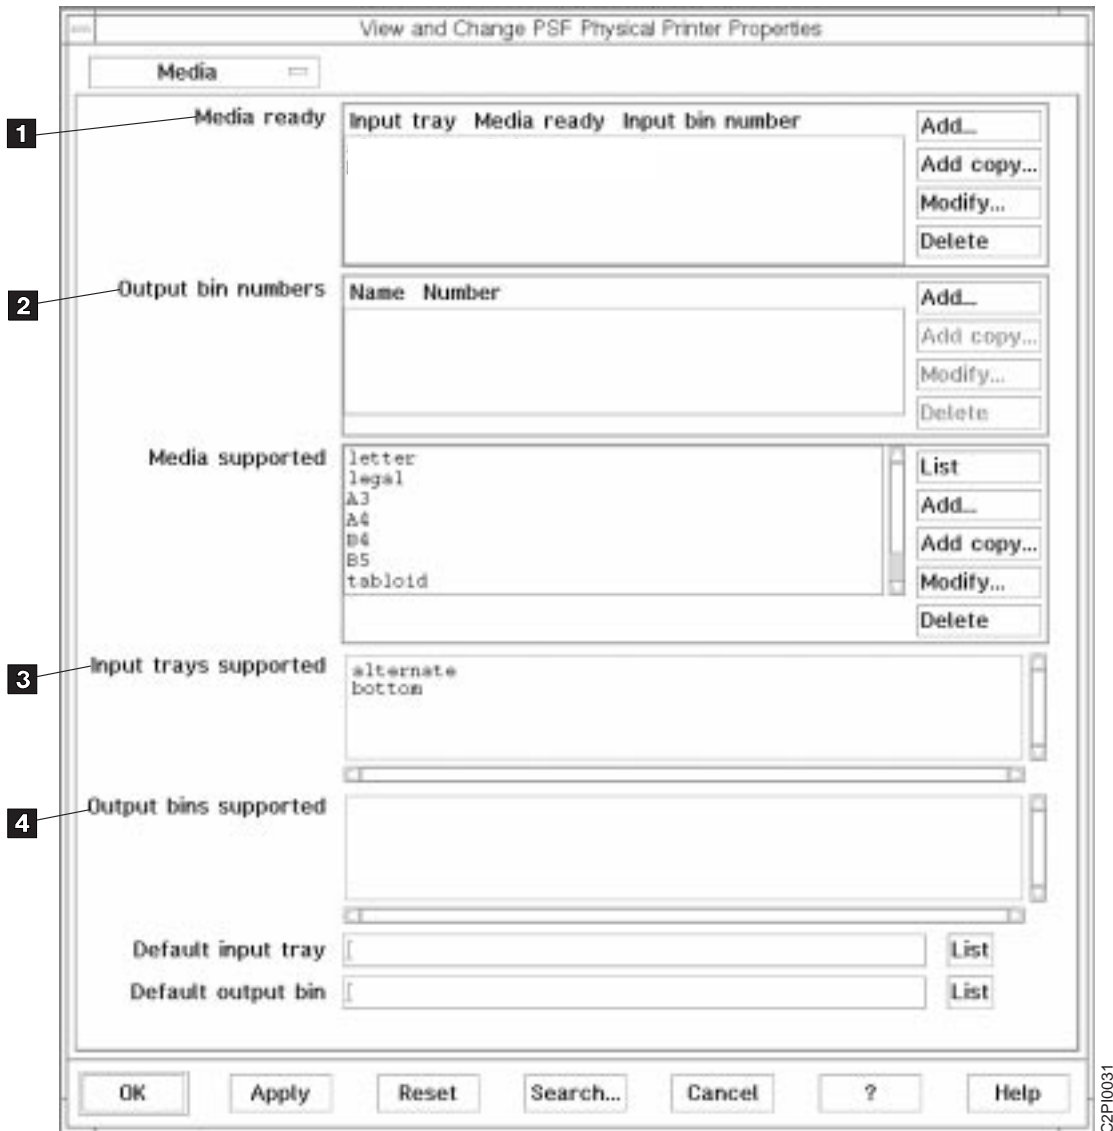

Figure 17. Media Window
7. From the **Summary** drop-down menu **1**, select **Media**. You see the Media window (Figure 17 on page 17).